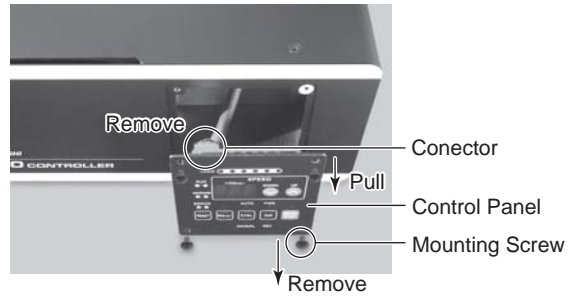

Fig. 20
- (1) Remove the 4 screws that affix the Control Panel and pull the Control Panel gently from the CONTROLLER (Fig. 20).
Remove the connector from rear of the Control Panel (Fig. 20).